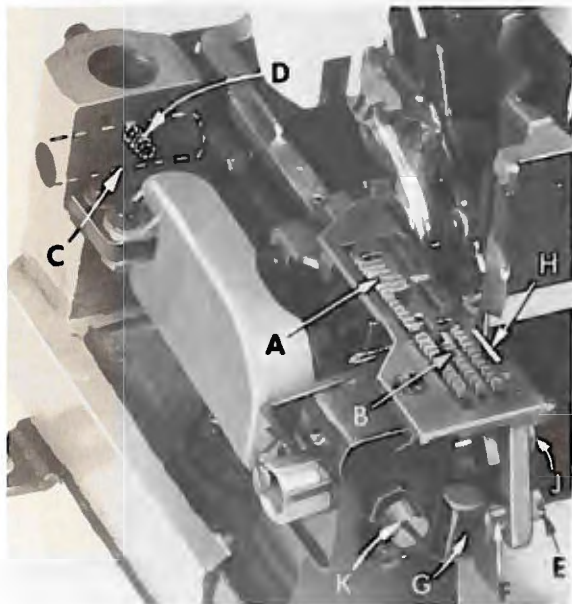

Fig. 11
Assemble main and differential feed dogs (A, B, Fig. 11).
Replace the lower knife holder assembly. In replacing the lower knife holder assembly, tighten screw (E, Fig. 11) so that when the face of the flange on sleeve (F) seats against throat plate mounting bracket (G), a free lateral motion of the lower knife and holder assembly is obtained when the knife is manually pressed at its upper corner. Lower knife (H) should be set with cutting edge flush with throat plate surface. Adjustments are made with hexagonal head screw (J) which holds the lower knife. Lower knife is spring pressed against the upper knife, so no lateral adjustment is necessary when the width of trim is changed.